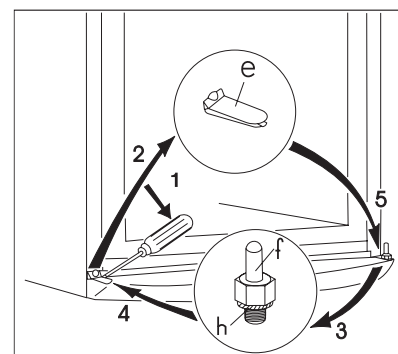

fig. 4.
- Remove the insert of the plinth (e) by a screwdriver. (fig. 4)
- Unmount the lower hinge pin (f) and its washer (h) and mount them on the other side.(fig. 4)
- Fit the freezer door to the lower door hinge pin (f). (fig. 4)